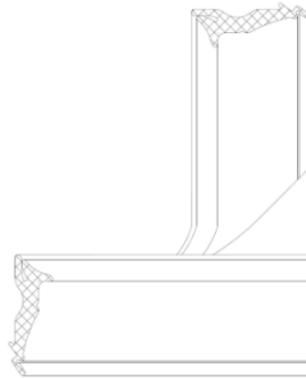

Figure 8 Inner glazing seal installation
3.2. Glue inner glazing seals onto the glazing beads. Cut the ends of the vertical glass seals at 45 degrees, leaving the seals slightly longer than the glazing beads (Figure 8).
Products with large dimensions are produced by using connecting profiles. Different parts of the frame are assembled at the construction site using self-tapping screws (Figure 8).